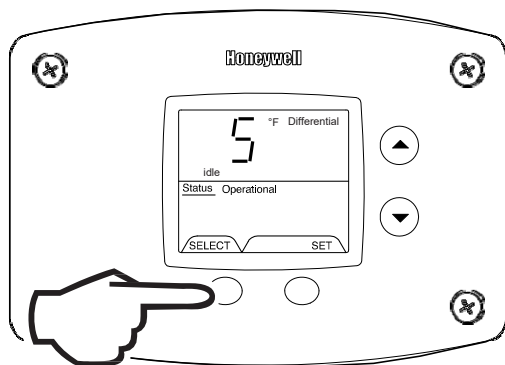

Fig. 48
6. Differential (Display only – shows the differential of the thermostat) (Fig. 48).